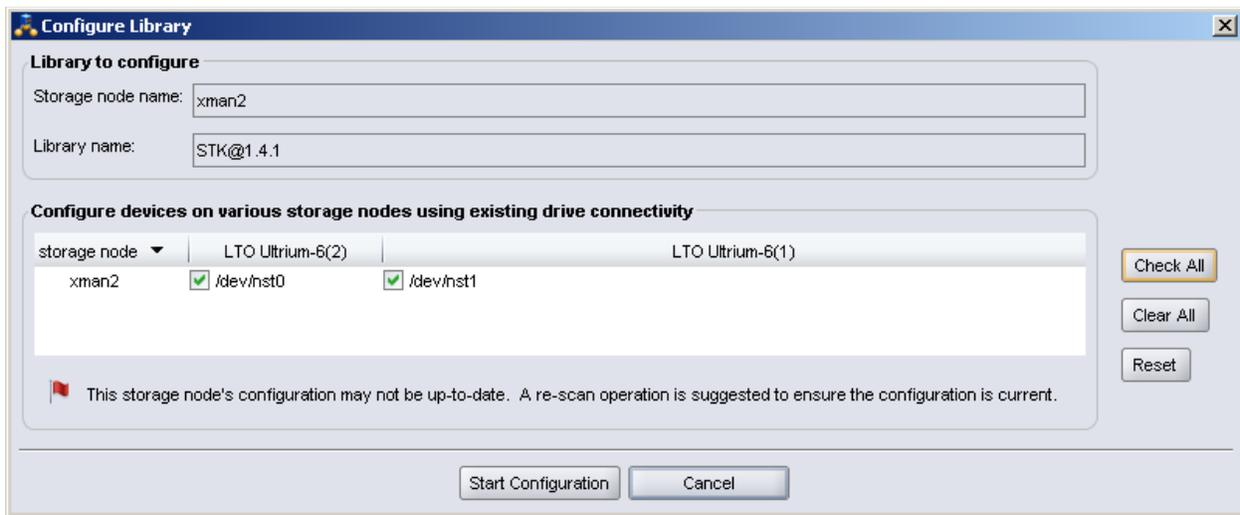

Figure 7: NetWorker Configure Library screen.
- 3) The Configure Library screen will appear. Select all tape devices that are part of the library and click Start Configuration. (See figure 7):